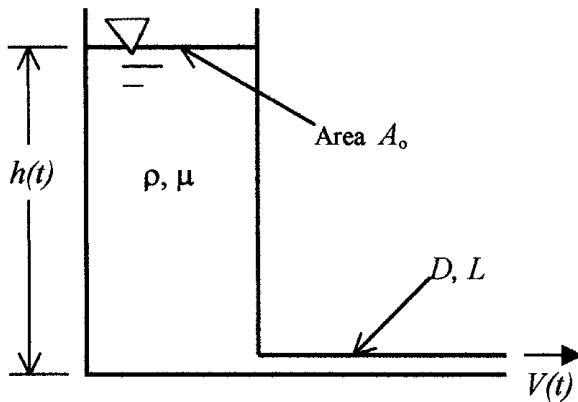

Fig. P4.92
**4.92** A tank of area  $A_o$  is draining in laminar flow through a pipe of diameter  $D$  and length  $L$ , as shown in Fig. P4.92. Neglecting the exit-jet kinetic energy and assuming the pipe flow is driven by the hydrostatic pressure at its entrance, derive a formula for the tank level  $h(t)$  if its initial level is  $h_0$ .